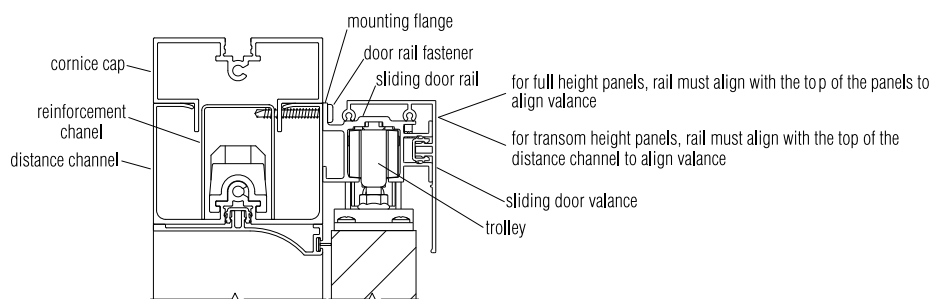

Figure 7
8. For cornice installations, prior to installing sliding door rail, lay out cornice cap, cap locks & cornice reinforcement channels. Reinforcement channels are 20" long and designed to provide additional material for door rail fasteners while still allowing use of cap locks. Drill sliding rail clearance holes to avoid cap locks, but to use channels wherever possible. Five channels are included with single doors and ten are available with double door conditions. Double doors are typically specified with reinforced headers. Cornice cap locks aren't applicable in these situations. However, they must be used wherever possible on adjacent panels (Figure 7).